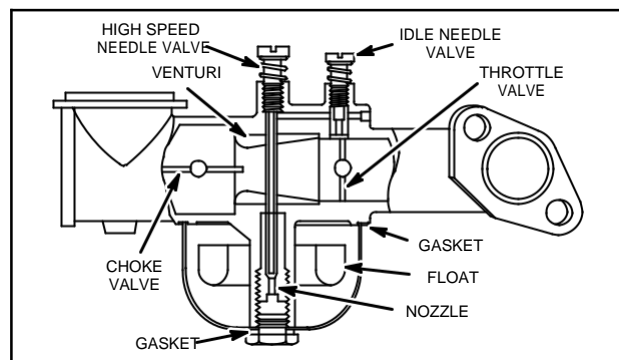

Fig. 257 – SMALL ONE-PIECE FLO-JET CARBURETOR
1. Remove idle and main jet needle valves, Fig. 257.